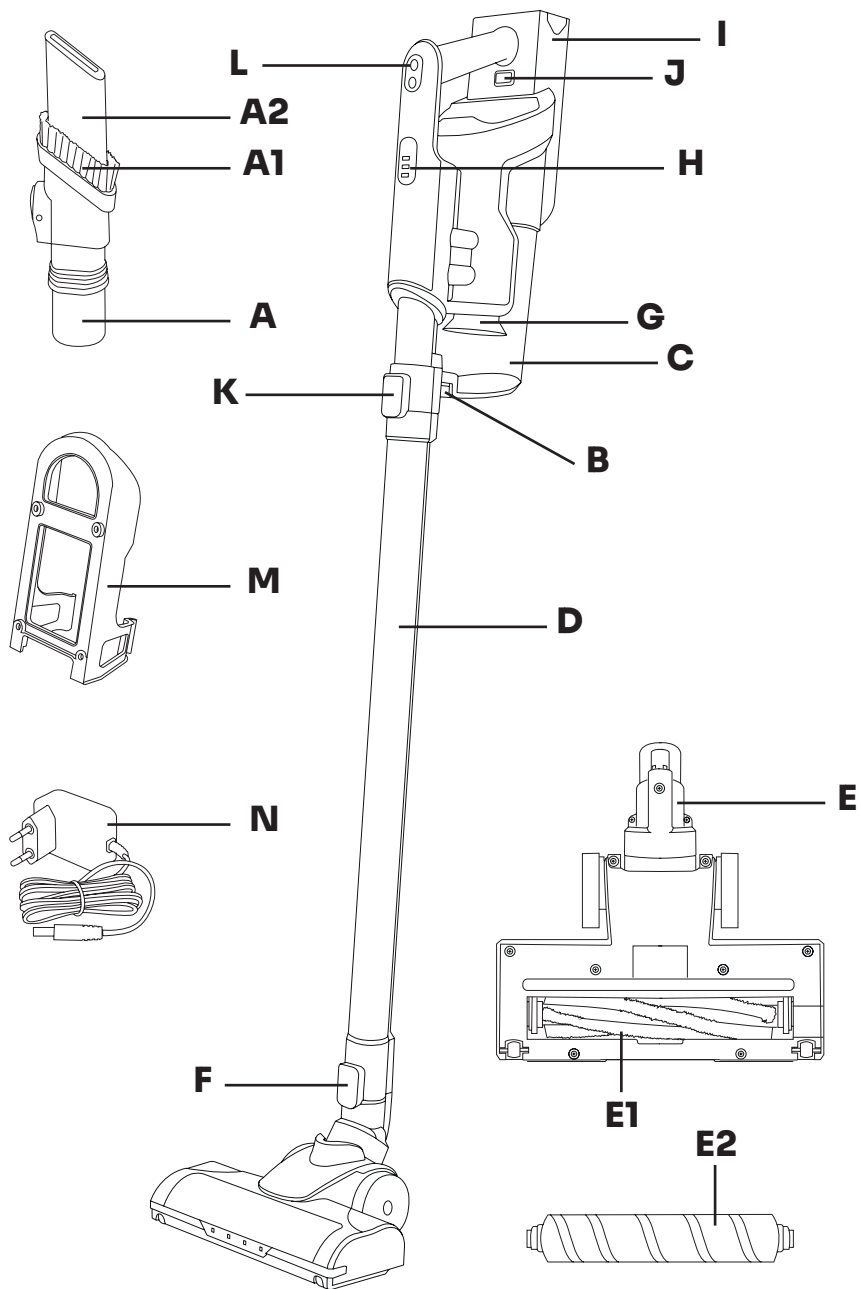

Fig.1
- Respect the MAX level indication (Fig. 1).